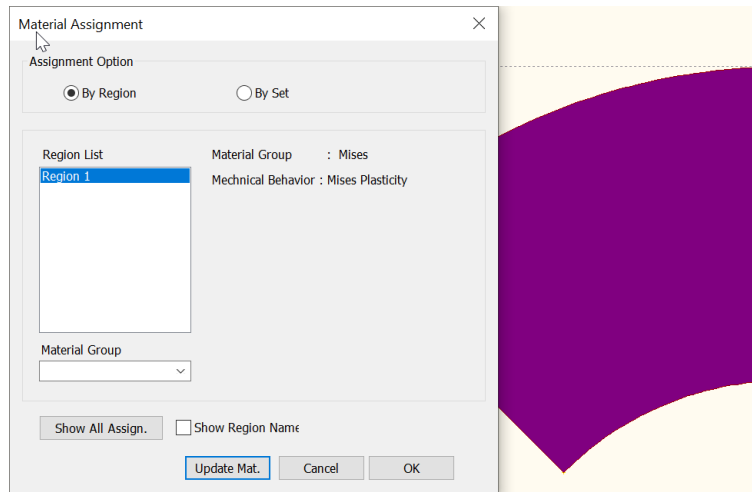

Figure 2.1-20: Assign material property to region object
5. Click **"Assign"** to complete the material assignment. The region's color will change to purple (Figure 2.1-20).